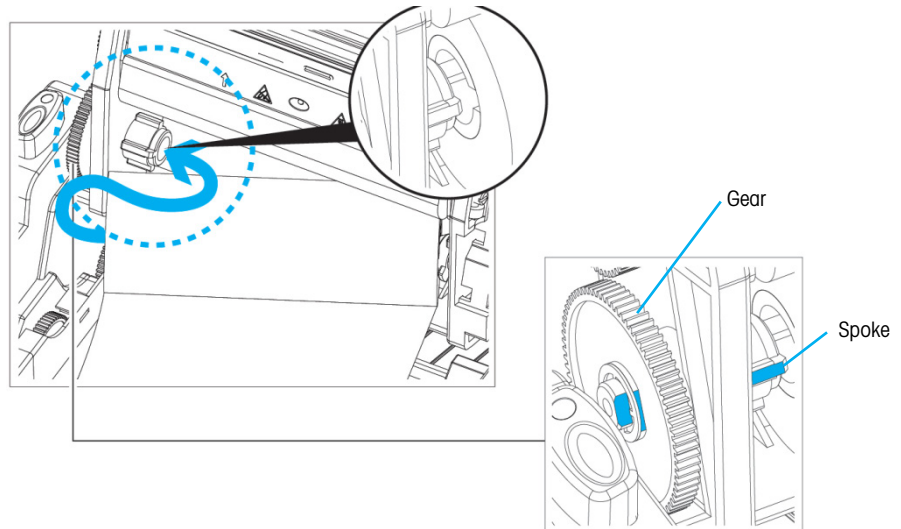

Figure 2-11: Positioning the Left Side of the Ribbon Module
2. Position the left side of the ribbon supply module, aligning the notch of the ribbon core to the spoke indicated in Figure 2-11. If necessary, rotate the gear to align the spoke to the notch.